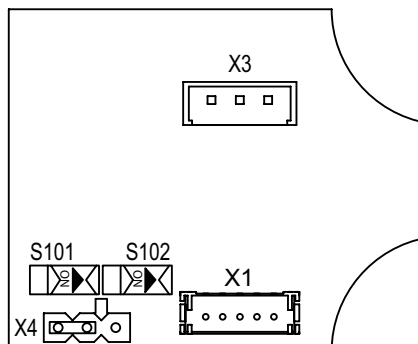

Fig. 7: Overview of BIS L-409-... processor
- IO-Link mode, jumper setting as shown in Fig. 7 (factory default setting)